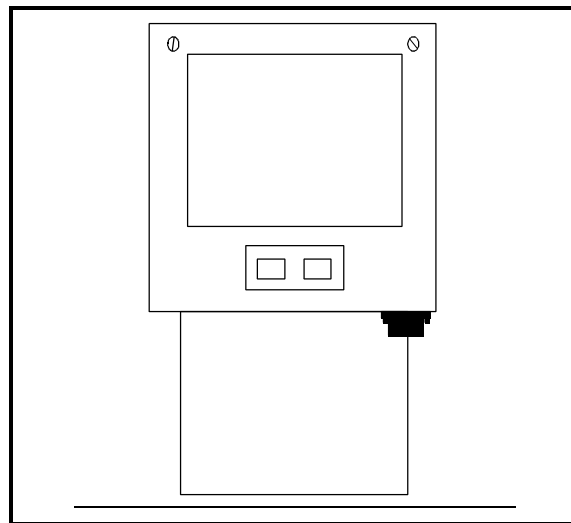

Figure 1
5. Use two panhead or countersunk wood screws to attach the scanner and stand to the work surface. (*Refer to Figure 1*)